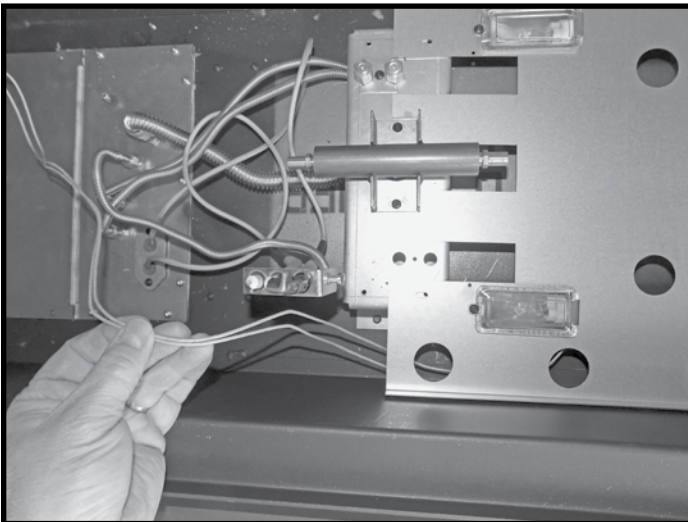

Figure 87: Right hand plate in place with its wires brought out from under it.
- With the control compartment to your left, place the right-hand secondary floor plate in place and route the two wires from the lights to the left side of the firebox (Figure 87). Feed the two wires down through the left most grommet in the gas control compartment cover (Figure 88).